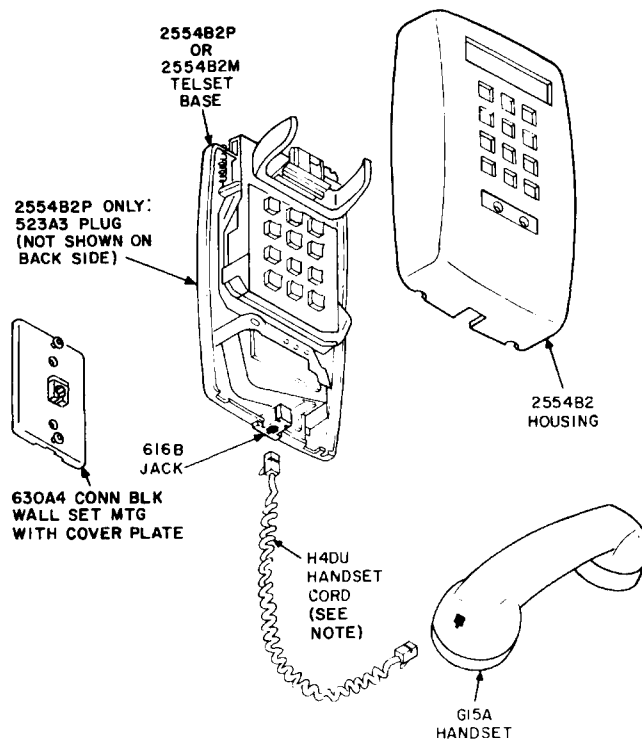

Fig. 3—2554-Type, Modular, Portable Telephone Set Assembly
2.08 The following components can be assembled to provide a portable modular (wall) telephone set (Fig. 3).